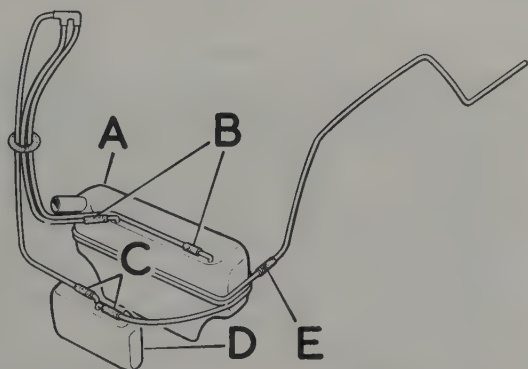

Fig. 3.13. Connecting pipes, fuel tank breather system (emission control)
- 7 There are two pipe connections for the tank breather system on the main tank, and two connections on the expansion tank, plus a connection adjacent to the right-hand side of the main tank. These should be disconnected (Fig. 3.13).